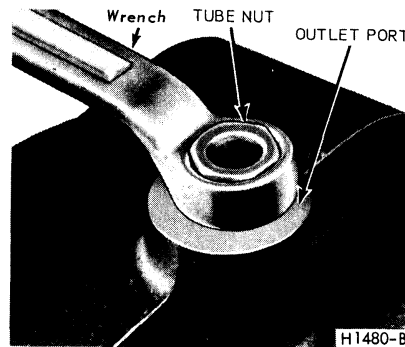

FIG. 28 Installing Residual Check Valve and Tube Seat
3. Place a new brass tube seat insert in the port. Be sure the insert is not cocked. Thread a spare brake line tube nut in the port, and turn down the nut until the tube seat insert is bottomed in the port (Fig. 28). Remove the tube nut.